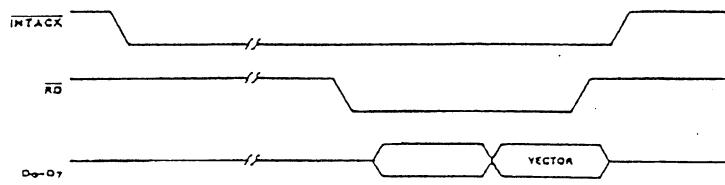

Figure 14. Interrupt Acknowledge Cycle Timing
**Interrupt Acknowledge Cycle Timing.** Figure 14 illustrates Interrupt Acknowledge cycle timing. Between the time INTACK goes Low and the falling edge of  $\overline{RD}$ , the internal and external IEI/IEO daisy chains settle. If there is an interrupt pending in the SCC and IEI is High